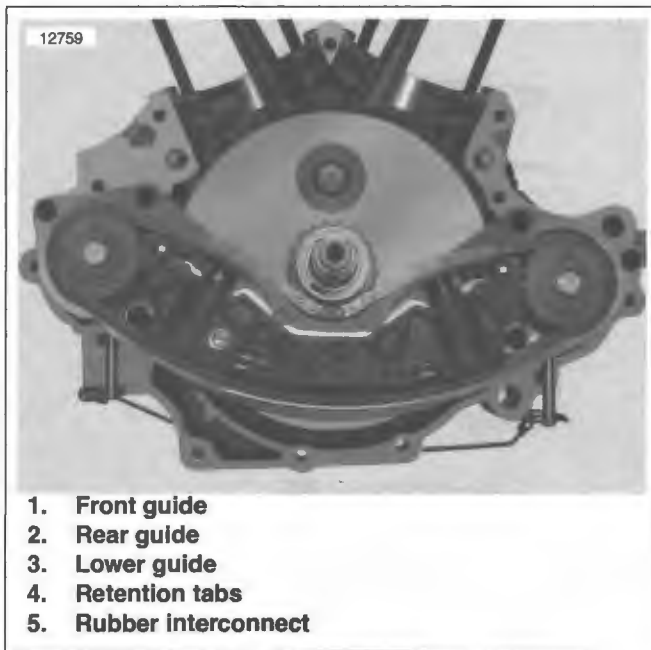
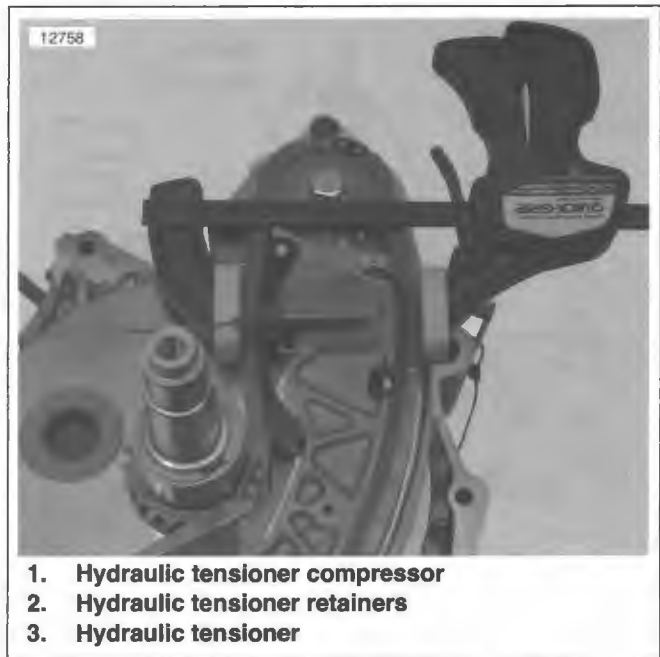

Figure 3-68. Chain Tensioner Guides
Figure 3-69. Hydraulic Tensioner Tools (Front Tensioner Shown)
13. See Figure 3-68. Install chain tensioner guides. A small screwdriver may be used to aid installation.
- a. Obtain chain tensioner guide (1) labeled "F" for front. With label facing away from chain guide bracket, install guide on post by pushing down until guide snaps into place.
- b. Obtain chain tensioner guide (2) labeled "R" for rear. With label facing away from chain guide bracket, install guide on post by pushing down until guide snaps into place.
- c. Install lower chain tensioner guide (3) by snapping both retention tabs (4) into place on chain guide bracket assembly.
14. See Figure 3-69. Release both hydraulic tensioners.
- a. Clamp rubber tip of HYDRAULIC TENSIONER COMPRESSOR (1) (Part No. HD-44063) over balance chain and bottom of chain guide bracket assembly.
- c. Remove HYDRAULIC TENSIONER RETAINER (2) (Part No. HD-44408) from lip of tensioner.
6. See Figure 3-68. Install **new** rubber interconnect (5) on chain guide bracket assembly.